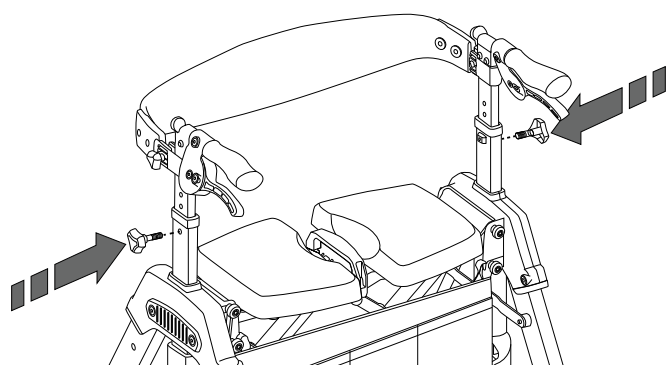

FIGURE 3
3. Handle height adjusts from 787.4mm to 971.55mm. Unscrew knobs, adjust handles to desired height, align holes and retighten knobs as shown in FIGURE 3.